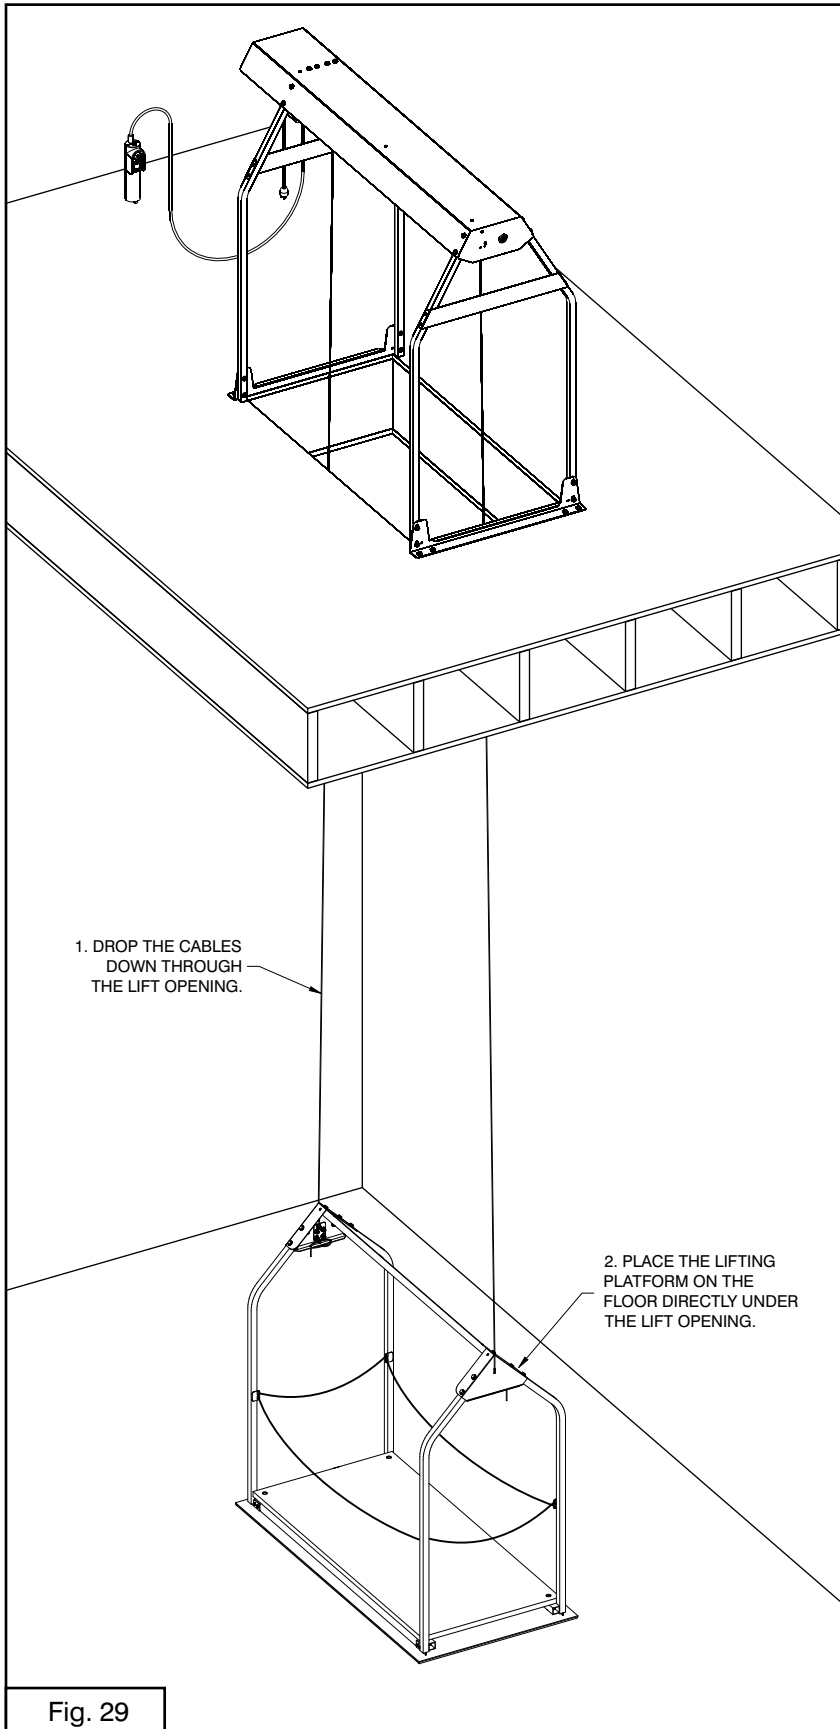

Fig. 29
**8-2.** Position the lifting platform assembly on the floor directly below the lift opening (Fig. 29). (You can hang a plumb line from the corners of the lift opening to mark the garage floor below where the corners of the platform assembly should sit.)